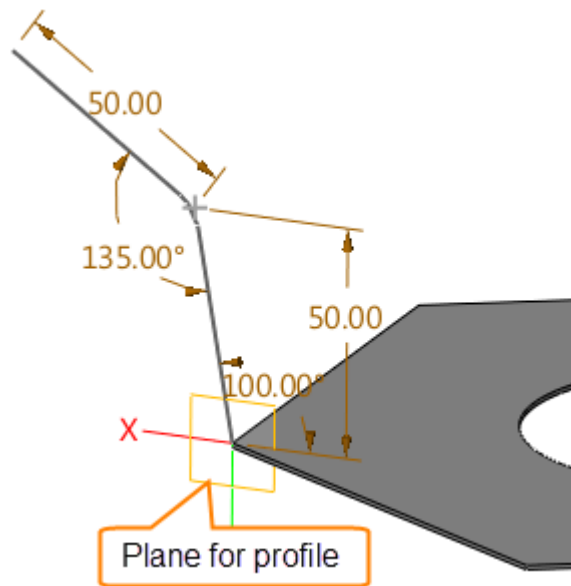

Figure36 Profile for Swept Flange along uncontinuous Path
STEP 02 Create profile on assigned datum, as shown in Figure 36.